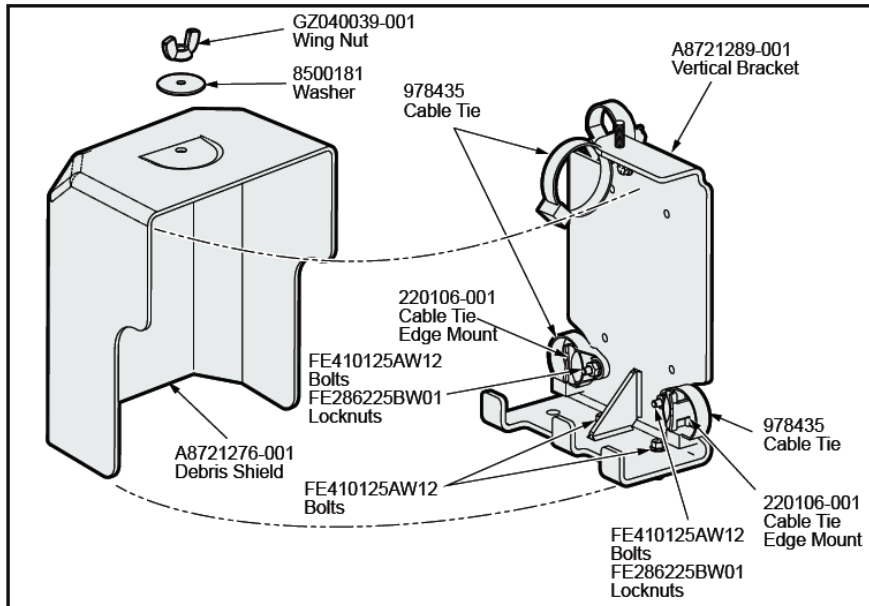

Figure 4
5. Install three 220106-001 Cable Tie Edge Mounts onto the Vertical Bracket and four 978435 Cable Ties (see *Figure 4*).
6. Install four FE410125AW12 Bolts and three FE286225BW01 Locknuts (see *Figure 4*).
9. Install the new A8721276-001 Debris Shield, 8500181 Flat Washer and the GZ040039-001 Wing Nut (see *Figure 4*).